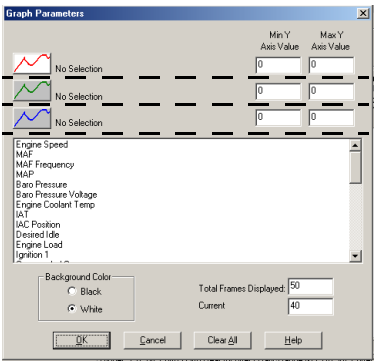

Figure 3.7: Graph Parameters Dialog Box
- 6 In the bottom section of the Graph Parameters dialog box (Figure 3.7), make the following optional selections:
- Click the **Display Graph** icon () to display the Graph Parameters dialog box (see Figure 3.7 on page 32). With this dialog box displayed, click the **Clear All** button and then click the **OK** button.